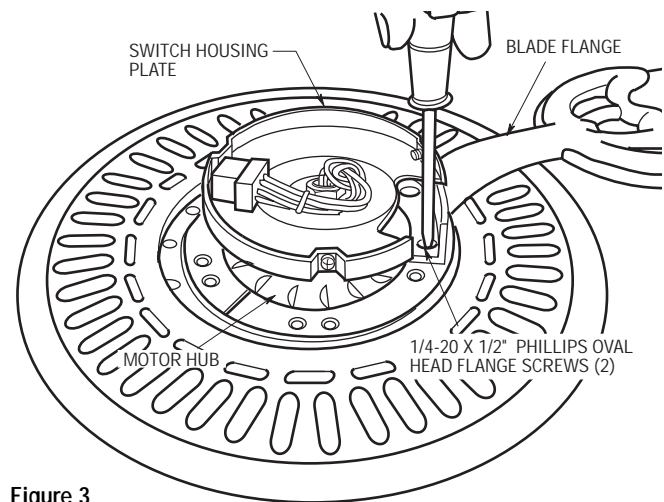

Figure 3
8. Rotate the motor hub until the flange screw hole is next to the cutout in the switch housing plate. Attach one blade assembly to the motor hub using two 1/4-20 x 1/2" Phillips oval head flange screws. Make sure the screws are **NOT** tightened. (Figure 3.) Repeat this procedure for the other four blade assemblies.